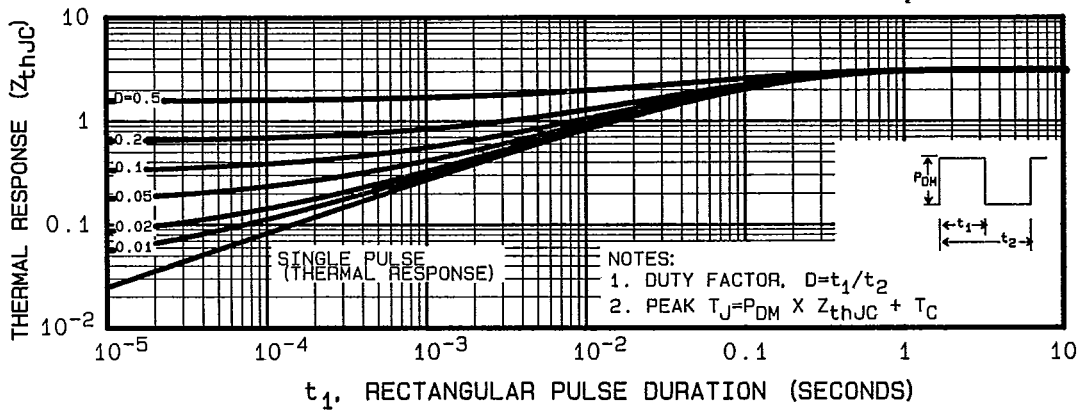

Fig. 5 — Maximum Effective Transient Thermal Impedance, Junction-to-Case Vs. Pulse Duration
① $T_J = 25^\circ\text{C}$ to 150°C
② Repetitive Rating: Pulse width limited by max. junction temperature. See Transient Thermal Response Curve (Fig. 5)